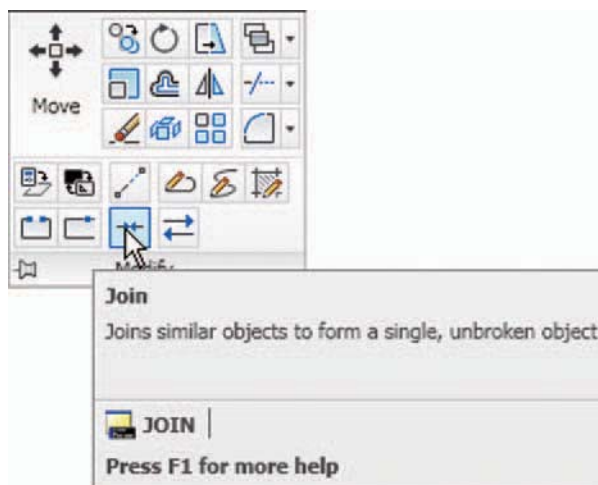

Fig. 5.37 The **Join** tool icon from the **Home/Modify** panel
2. Call the **Join** tool – either *click* on the **Join** tool icon in the **Home/Modify** panel (Fig. 5.37), *left-click* its tool icon in the **Modify** toolbar, select **Join** from the **Modify** drop-down menu, or *enter* **join** or **j** at the command line. The command line shows: